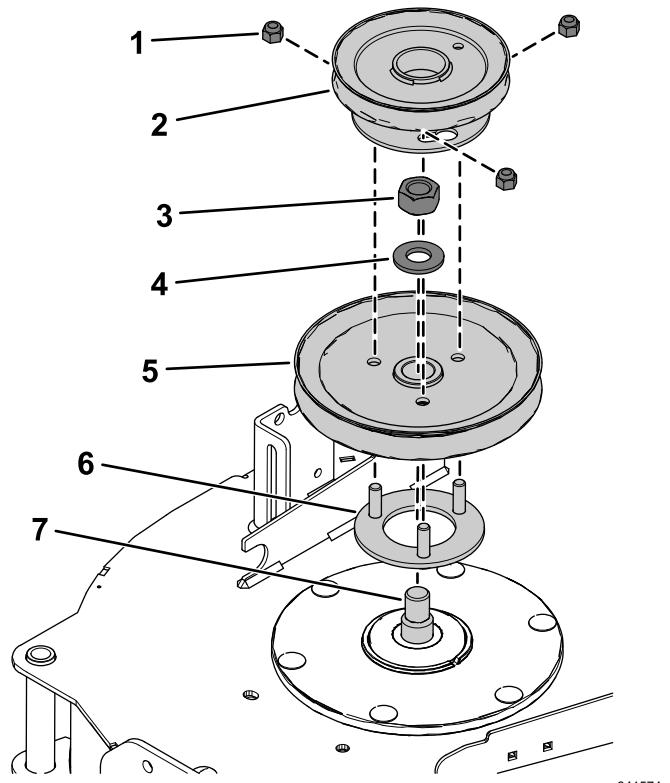

Figure 22
4. Insert the threaded studs on pulley mount through the holes in the deck pulley (Figure 22).
5. Secure the deck pulley to the spindle shaft using the previously removed hex nut (3/4 inch) and washer (Figure 22).
7. Arrange the blower pulley onto the threaded studs and loosely install the 3 locknuts (3/8 inch) as shown in Figure 22.